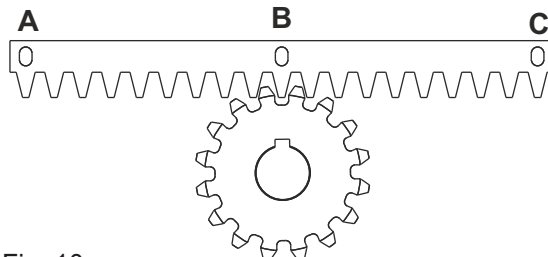
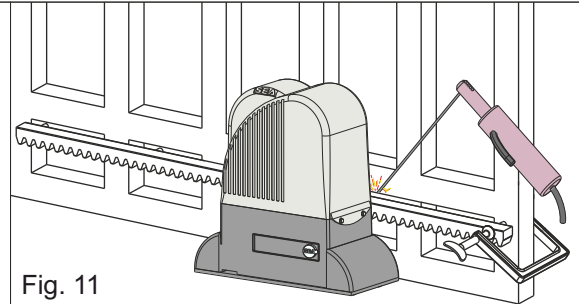

Fig. 10
Fig. 11
- 5.3. Lean the gear rack element on the toothed pinion of the operator in parallel to the ground slideway of the gate, as shown in Fig. 10 and weld the central pawl **B** to the gate structure - Fig. 11. Manually move the gate until pawl **C** is placed in front of the pinion and fix it through electric welding. Repeat the same procedure for pawl **A** after having placed it in front of the pinion;